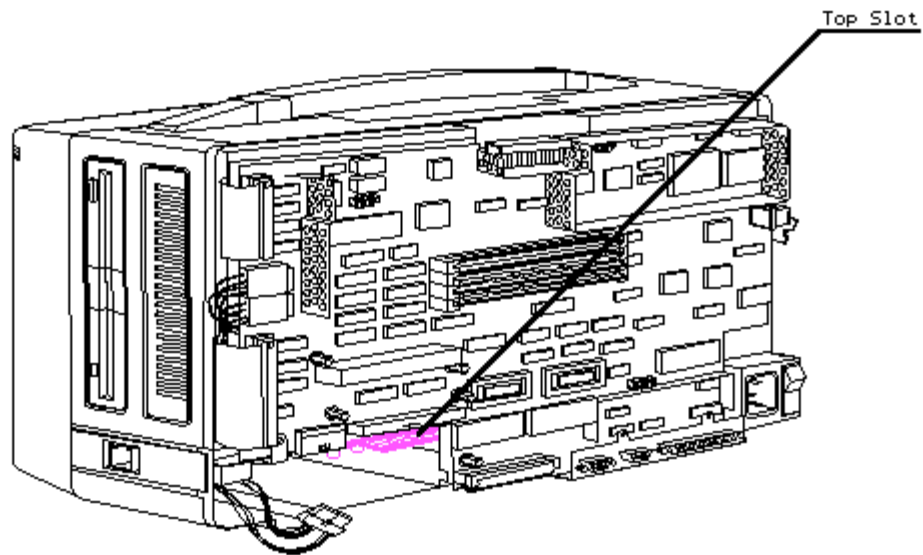

Figure 8-20. Second Serial Interface Board Location
5. Locate the second serial interface board shown in Figure 8-20.